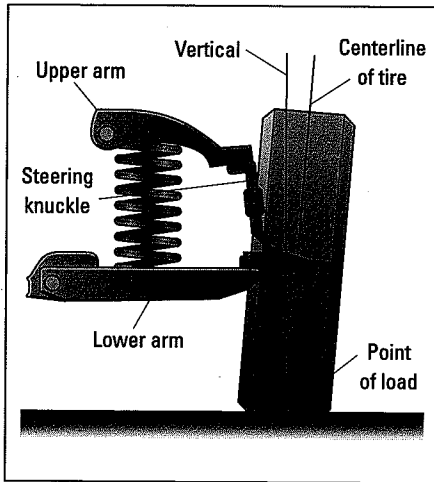

Figure 19-5:
- ✓ **Camber** is the inward or outward tilt of the top of the wheels when viewed from the front/rear of the car — how “bow-legged” or “knock-kneed” they are (see Figure 19-5). If the wheels don’t hang properly, your tires wear out more quickly, and your car is harder to handle.